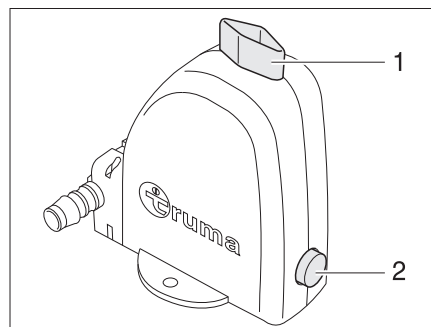

Fig. 66 Safety/drainage valve of the boiler
The boiler is equipped with a safety/drainage valve (Fig. 66). The safety/drainage valve prevents water in the boiler from freezing, when there is frost and the heater is not switched on. The safety/drain valve is installed near the heater or in the floor storage compartments under the table.
- Close the safety/drainage valve. To do so turn the knob (Fig. 66,1) cross-wise to the safety/drainage valve and press in the push button (Fig. 66,2).
- Open the safety/drainage valve. To do so turn the knob (Fig. 66,1) parallel to the safety/drainage valve. The push button (Fig. 66,2) trips. The boiler is drained to the outside by the safety/drainage valve.